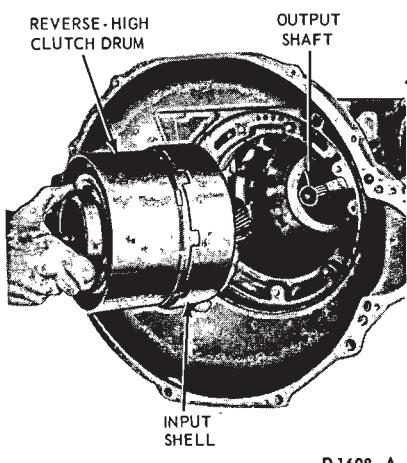

FIG. 27—Removing or Installing Forward Part of Gear Train
11. Remove the forward part of the gear train as an assembly as shown in Fig. 27.